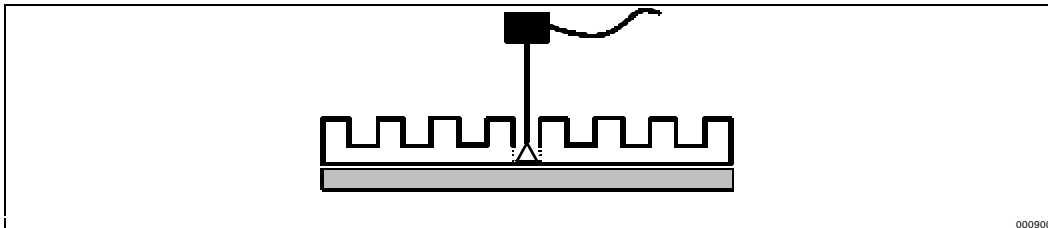

Figure 21. Technique for Measuring T_{PLATE} with 90° Angle Attachment
- The thermocouple should be attached at a 90° angle if a heat sink is attached to the thermal plate and the heat sink covers the location specified for T_{PLATE} measurement (refer to Figure 21).